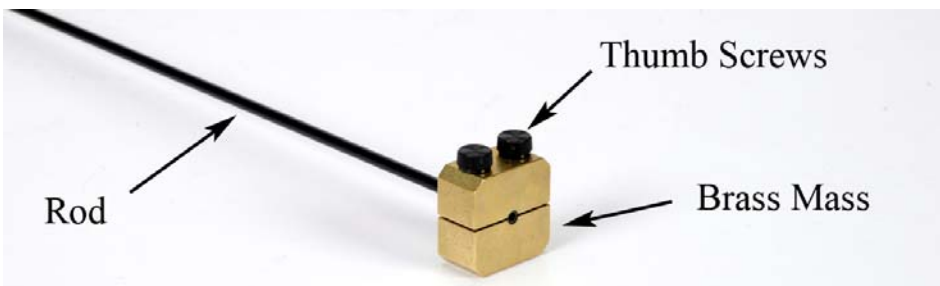

Figure 5: Attaching the Brass Mass
5. Use the two thumb screws to attach the two-piece brass pendulum mass to the rod as shown in Figure 5. Later in the experiment, the mass will be located at various radii, but for now place the bottom of the mass flush with the end of the rod.